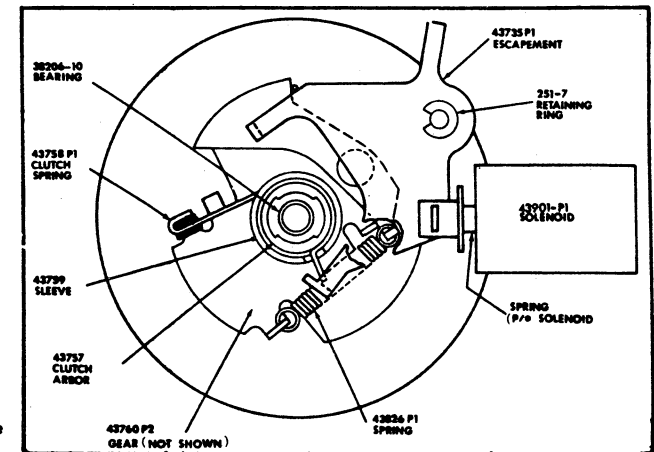

Figure 8. CAM DRIVE ASSEMBLY
2. Advance happens when solenoid or advance button pulls escapement (Fig. 8) and allows clutch spring to tighten on the drive gear arbor and drive through one cycle as follows.